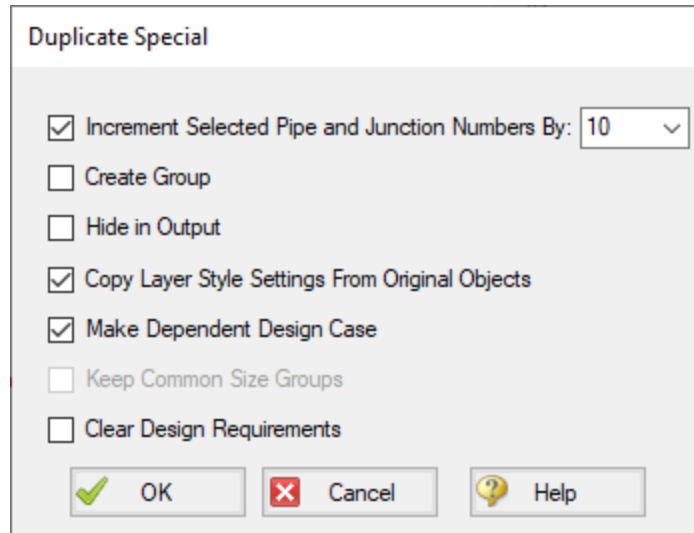

Figure 6: Duplicate Special settings to create a dependent design case
4. Open Duplicate Special (from the Edit menu), enter an increment of 10, select Make Dependent Design Case, and select Copy Layer Style Settings From Original Object (Figure 6). Click OK.